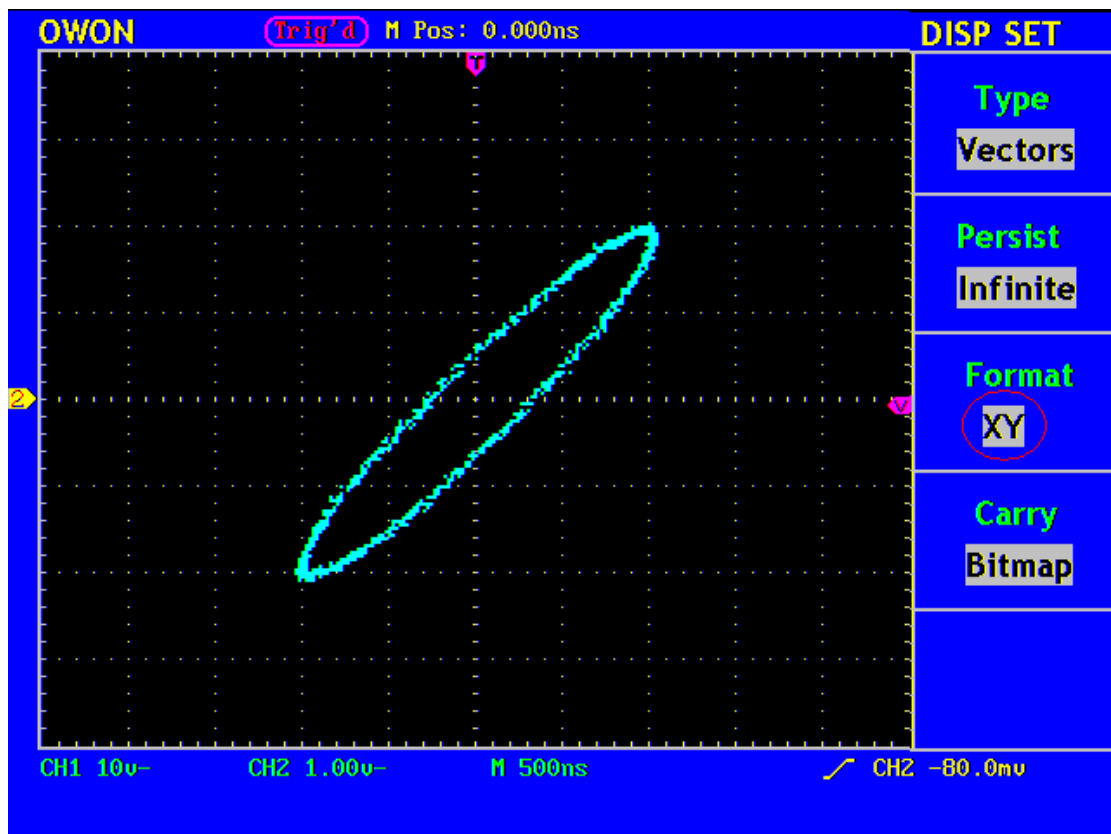

Fig. 41 XY Display Mode
2. Press the **F3** menu selection button and choose the form as XY. The display format is changed to be XY mode (see Fig. 41).